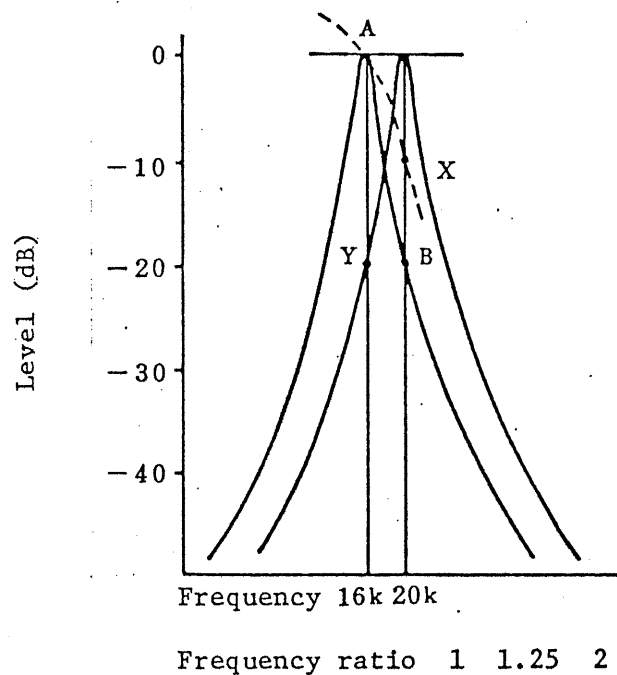

Figure 6
Let us discuss the interference between 16 kHz and 20 kHz (frequency ratio = 0.25). (See Figure 6.)
Assume that the component (A) of the 16 kHz signal is 1 Vrms. Since the component (B) of the 20 kHz signal which has passed the 16 kHz BPF is attenuated by -20 dB due to the characteristics shown in Figure 6, the voltage caused by the component (A) is 0.1 Vrms. The compound signal of (A) plus (B) becomes as follows: